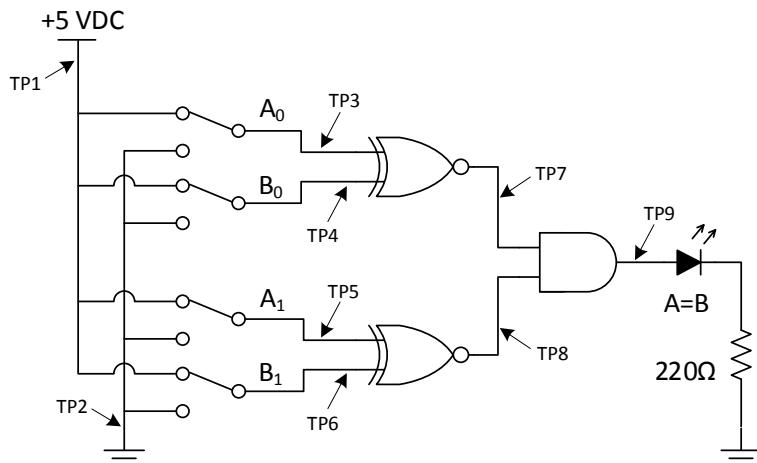

Figure 15: Magnitude Comparator Circuit and Test Points
1. With the bread board power supply ON, apply input A & input B (please refer to Table 7 for the input settings). Verify the output through logic monitor or LED'S. Initiate fault and perform voltage check in every test point as shown in Figure 15.